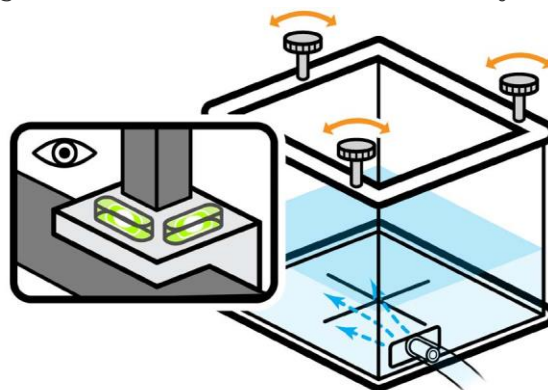

Figure 8-16: Coarse alignment of scan arms
13. Course leveling of scan arms (see also section 11 of this manual and Figure 8-16 below): Using the three hand screws located between the aluminum frame and the tank of the DoseView 3D, perform initial leveling of the motion assembly, referring to the two bubble levels located on one side of the X-Z axis assembly. Ideally, alignment screws are set at about the middle of their adjustment ranges in order to allow the most flexibility when leveling.